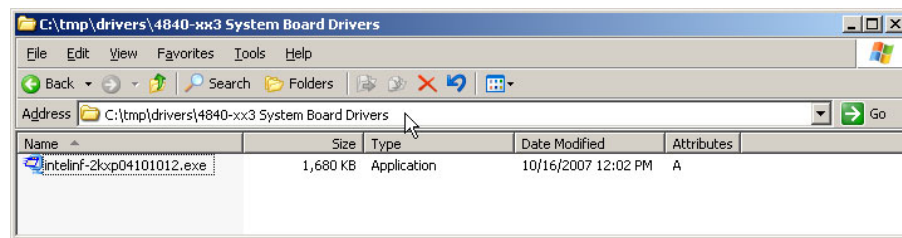

Figure 2-19 System board driver package
1. First, download the appropriate driver file from the relevant web site. The latest device drivers for IBM SurePOS systems can be found at <http://www2.clearlake.ibm.com/store/support>. In our case we are creating a driver package for the system board driver for the IBM SurePOS System type 4840-553, which are in the file intelinf-2kxp04101012.exe as shown in Figure 2-19.